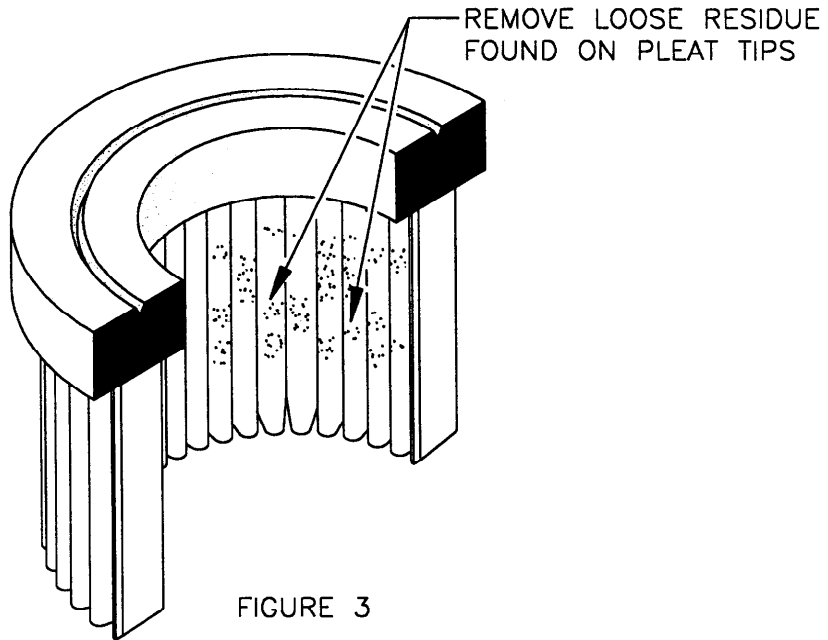

FIGURE 3
- 4) Inspect the inner diameter (pleat tips) of the paper filter for black residue (Figure 3). Remove all loose residue using the "sticky side" of a strip of masking tape attached to the end of a blunt instrument.